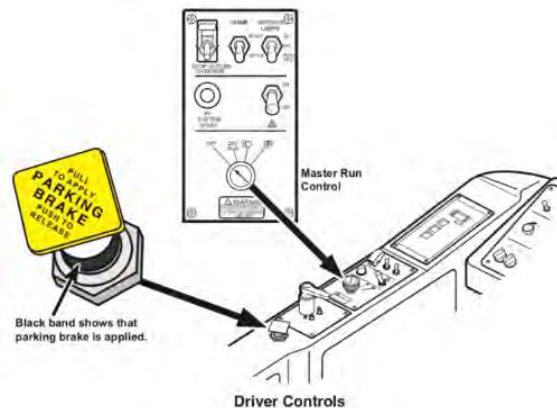

Fig. 2.4
2. Set the parking brake and select “Neutral” on the push-button Shift selector and turn the Master Run Control to the “OFF” position, as indicated in Fig. 2.4: